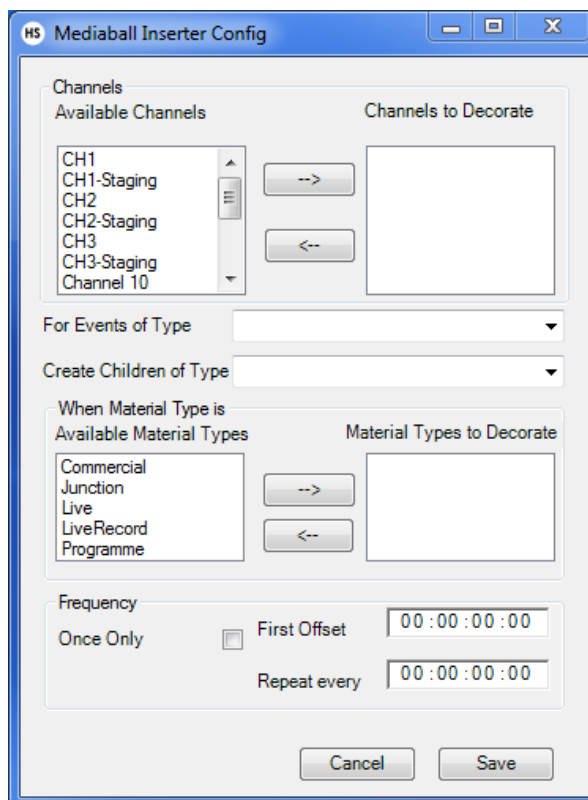

Figure 305 MediaBall Inserter Config Window
2. The Mediaball Inserter Config window will be displayed (Figure 305).